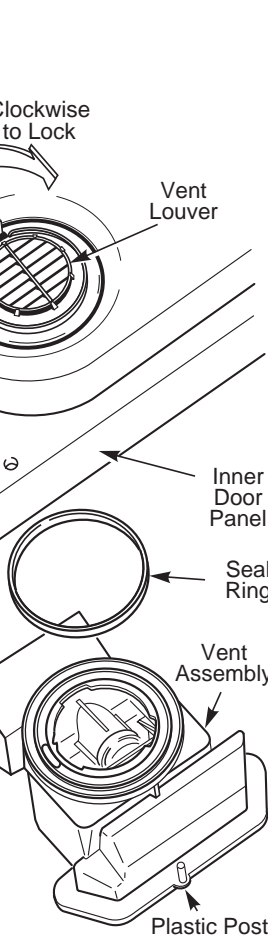
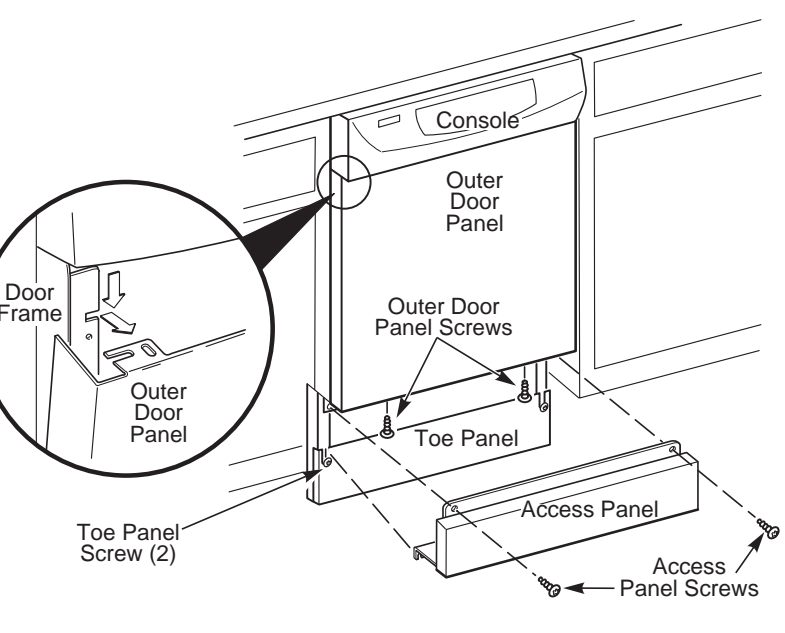

Figure 3
Figure 4
- Open dishwasher door. Remove four (4) screws at the top of stainless steel inner door panel to loosen console. Hold console to prevent strain on wiring.
- Insert the end of a screwdriver into the notch in the vent louver. Push counter-clockwise to rotate louver approximately 1/8 turn to release it. See Figure 3.
- Insert the end of a screwdriver into the notch in the vent louver. Push clockwise to rotate the louver approximately 1/8 turn to lock it in position. See Figure 3.
- Press top of console against door and attach the console by reinstalling the four (4) screws at the bottom of the stainless steel inner door panel.
- With dishwasher door closed, loosen the two (2) toe panel screws, but do not remove them.
- Remove two (2) screws from top of access panel. Pull top of access panel away from door, lift up and remove. See Figure 4.
- Remove two (2) screws from bottom of outer door panel.
- Refer to detail inset in Figure 4. Slide outer door panel downward until slots in door panel align with slots in door frame, then pull door panel straight off.